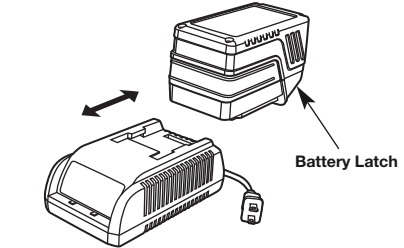

Fig. 8
3. Insert the battery into the charger (Fig. 8).
5. The battery may be removed or stored in the charger once it is fully charged; however, it is recommended to disconnect the plug from the wall outlet/receptacle. To remove the battery, hold down the battery latch and slide the battery off the charger (Fig. 8).